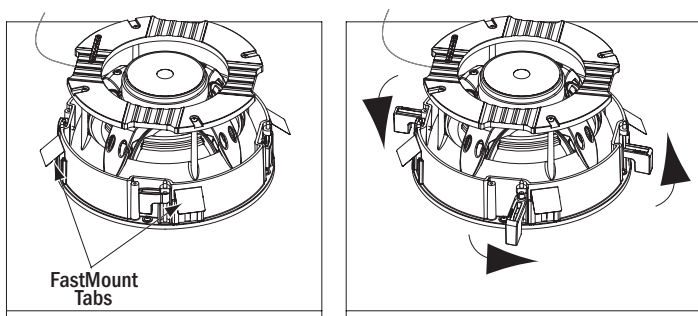

Figure 5: Original Series Large Installation
See Figure 5 for complete information about the FastMount tabs.
- The FastMount tabs will prevent the speaker from falling out of the mounting hole, allowing the installer to let go of the speaker to pick-up tools or other items (see *Figure 5*).
3. Tighten the four screws on the front of the speaker baffle. The Roto-Lock clamps will automatically rotate into position and begin clamping the speaker (see *Figure 5*).